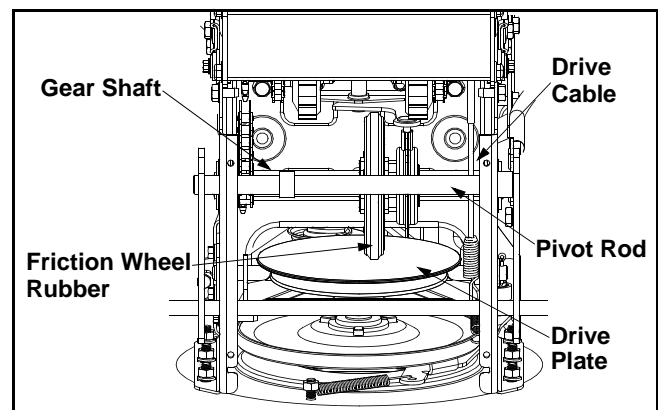

Figure 10
- With the traction control engaged, the friction wheel must contact the drive plate. See Figure 10.
Lubricate the gear shaft with 6-n-1 grease at least once a season or after every 25 hours of operation (available at automotive stores, or order part number 737-0170). Refer to Figure 10.
Lubricate at least once a season or after every 25 hours of operation. Remove the rear cover, lubricate any chains, sprockets, gears, bearings, shafts, and shifting mechanism at least once a season. Use engine oil or a spray lubricant. **Avoid getting oil on the friction wheel rubber and aluminum drive plate.** Refer to Figure 10.